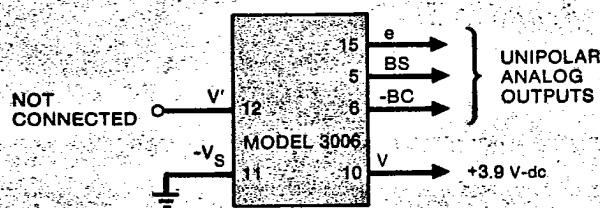
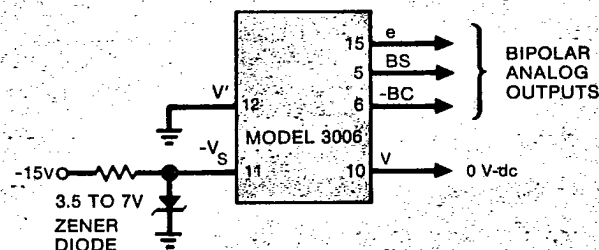

FIGURE 3 CONNECTIONS FOR UNIPOLAR ANALOG OUTPUTS
FIGURE 4 CONNECTIONS FOR BIPOLAR ANALOG OUTPUTS
**V' (pin 12)** is an unbuffered dc voltage. For unipolar output this pin is left unconnected. For bipolar analog outputs pin 12 is connected to ground (figure 4), and a negative power supply of -3.5 V-dc to -7 V-dc is applied to -Vs (pin 11).
The error voltage "e" (pin 15) as well as BS and -BC are referenced to the bias voltage V. Depending upon the application and availability of a negative power supply, the Model 3006 may be connected for unipolar or bipolar analog outputs. Figure 3 shows connections for unipolar output. Figure 4 shows a convenient way to obtain bipolar analog outputs from 3006 without using external operational amplifier.